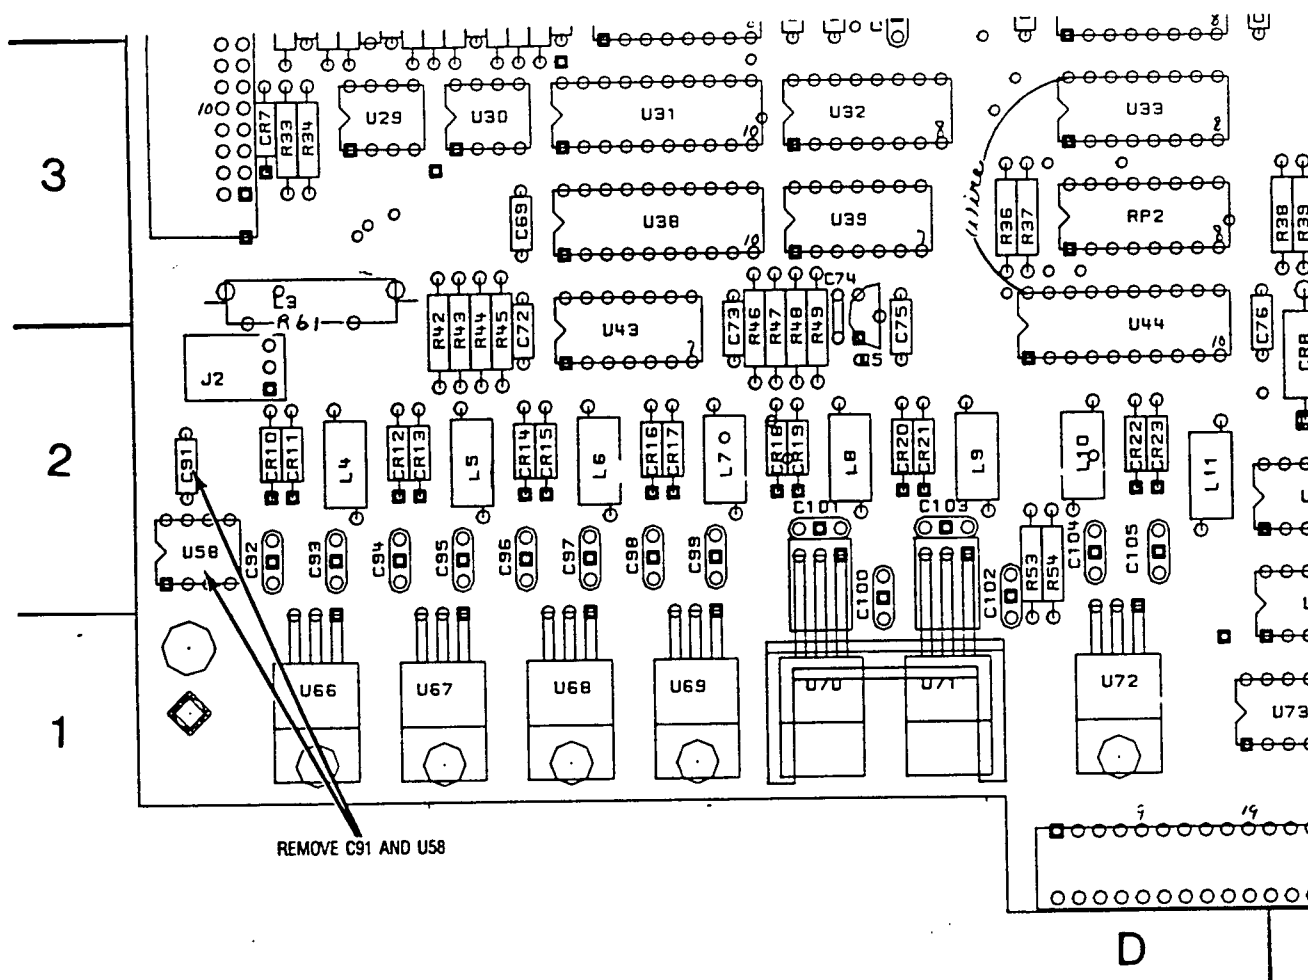

Figure 1. Acquisition Assembly A4 through A7 (Lower Left View of Assembly)
6. Remove U58 and C91 from the affected boards (See Figure 1).